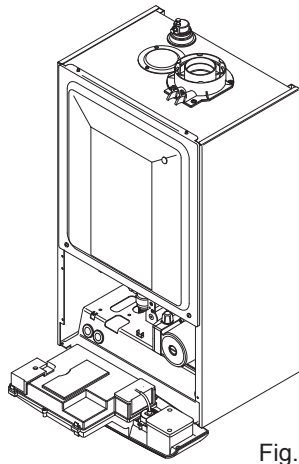
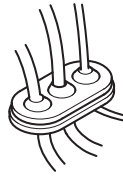

Fig. 13
Fig. 12
1. Ensure that the electrical supply to the boiler is isolated. Allow the facia to drop down (Fig. 13). Route the IFOS cable through the 3 way grommet (Fig. 12) in the combustion box lower panel.